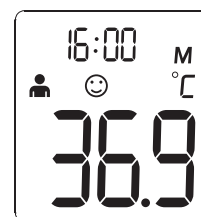

Figure 6
2. The thermometer will automatically memorize the last 10 temperature readings. Each memory also records the measurement date/time/mode icon. Each time the **ON** *BUTTON* is pressed, the screen displays past readings that correspond with a number 1-10. The number 1 reflects the most recent reading, while the number 10 reveals the oldest reading stored in memory. (See Figure 6)